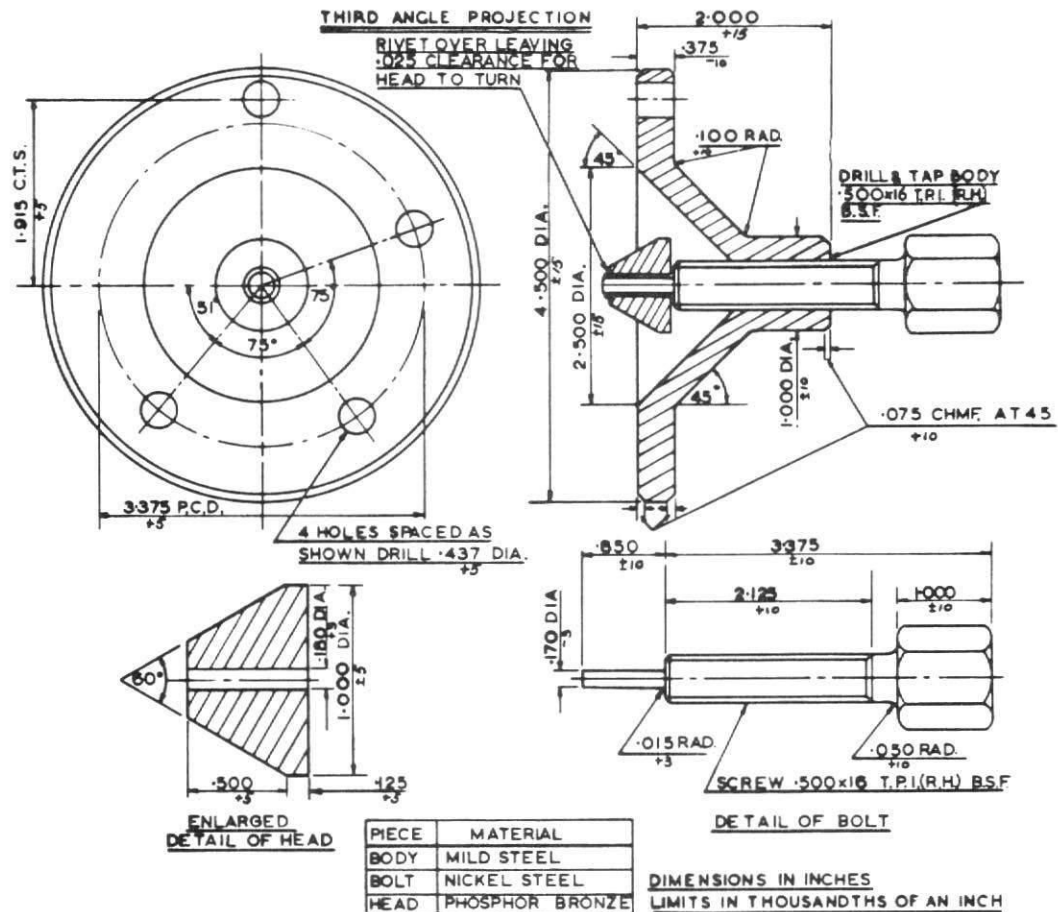

FIG. 5. EXTRACTOR - DIAPHRAGM.
(xx) Remove the two 5/16" (B.S.F.) nuts from the countersunk head screws holding the large circular diaphragm to the front end of the gearbox. Secure the extractor R-3181 (or one made from the detail drawing, Fig.5) to the diaphragm in line with the 2nd motion shaft; withdraw the diaphragm complete with the 1st motion shaft, at the same time collecting the adjusting washer (54) and the constant mesh gear (53), TIE the adjusting washer to the gear.